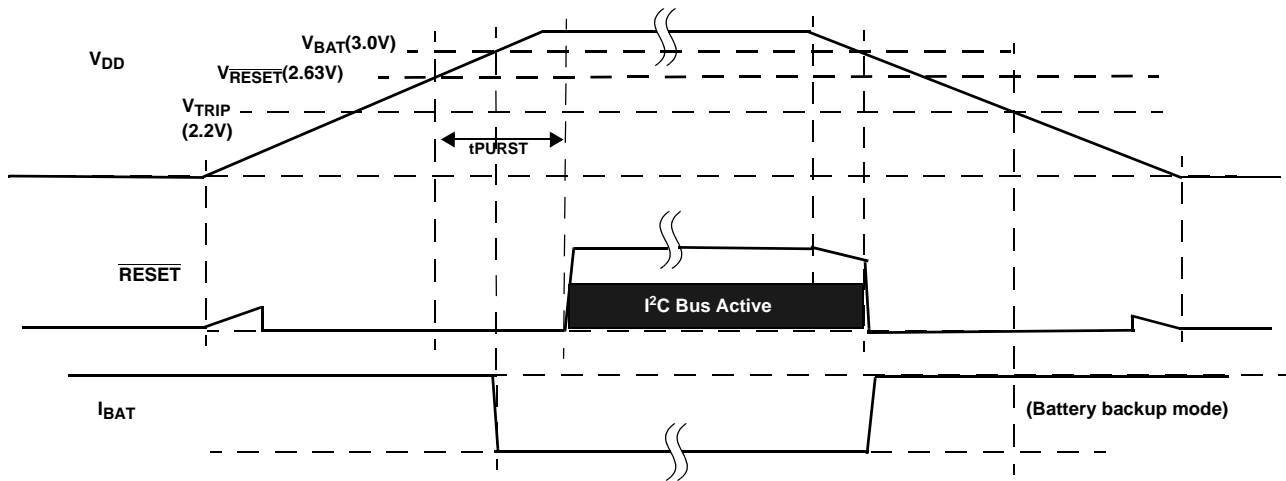

FIGURE 30. RESET OPERATION IN MODE D
- Mode D - In this mode the selection bits indicate switchover to battery backup at  $V_{DD} < V_{BAT}$ , and no I2C communications in battery backup. This mode is unique in that there is I2C communication as long as  $V_{DD}$  is higher than  $V_{RESET}$  or  $V_{BAT}$ , whichever is greater. This mode is the safest for guaranteeing I2C communications only when there is a Valid  $V_{DD}$ . See Figure 30.